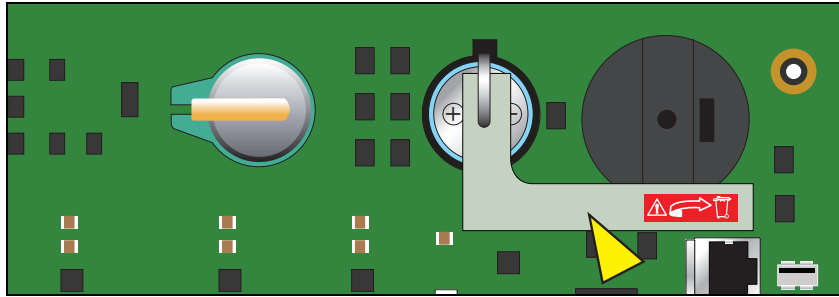

Figure 15. Remove TLS-450PLUS CPU Board Battery Isolator Strip
20. Remove the battery isolator strip from under the battery hold-down clip (see Figure 15).